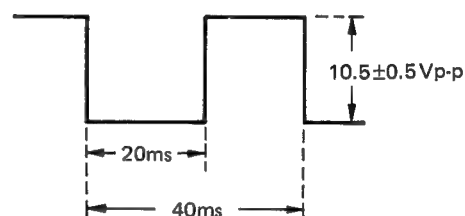

Figure 8-8.
2. Monitoring TP2 with an oscilloscope (internal trigger), check that the requirements given in Figure 8-8 are met.